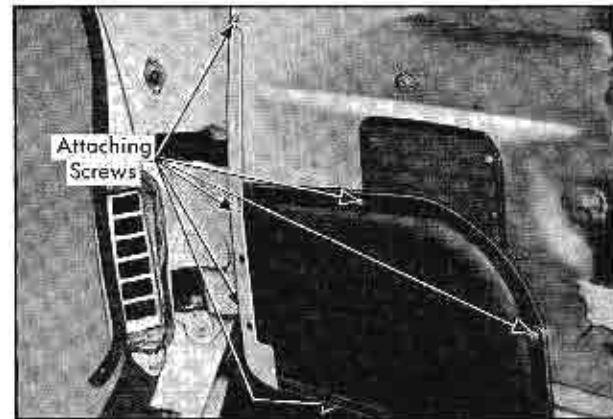

Fig. 3-13 Removal of Front Door Heater Duct
2. Remove attaching screws indicated in Fig. 3-13, and remove heater duct and attached grille.